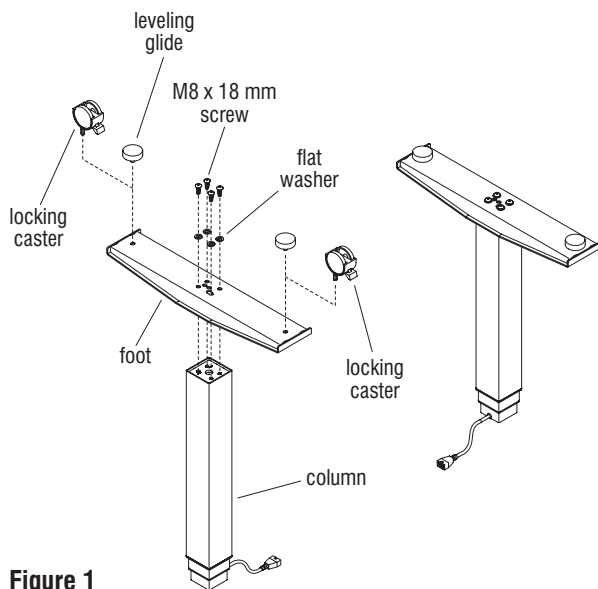

Figure 1
Note: When tightening the M8 x 18 mm screws at the bottom of the foot and into the leg column, first twist in all four screws "finger tight", then tighten the screws one quarter turn at a time using a diagonal tightening pattern as shown in Detail A. Repeat the diagonal pattern until all four screws are tight (Figure 1 & Detail A).
1. Set the column on end with the smaller (inner) square tube on the floor. The threaded holes visible on the end of the column will be in a rectangular (not square) pattern (Figure 1).
2. Place the foot over the column end so the column fits into the square hole in the foot. The slotted holes in the foot should line up with the four holes in the column end. If not the foot needs to be removed and repositioned at 90 degrees (Figure 1).
3. Attach the foot using four M8 x 18 mm screws and four 8 mm flat washers, tightening each screw one quarter turn at a time in a diagonal pattern until all four screws are tight (Figure 1 & Detail A).
1. Thread the stem of each stem-mount locking caster into the threaded inserts at the underside of one foot. Tighten the casters to the underside of the table using a 12 mm hex wrench. Repeat this step to install the casters to the second foot (Figure 1).
1. Thread the stem of each leveling glide into the threaded inserts at the underside of each foot (Figure 1).